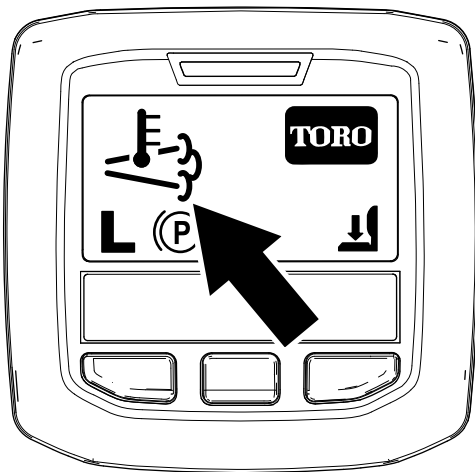

Figure 40
- The high exhaust-temperature icon  displays in the InfoCenter (Figure 40).